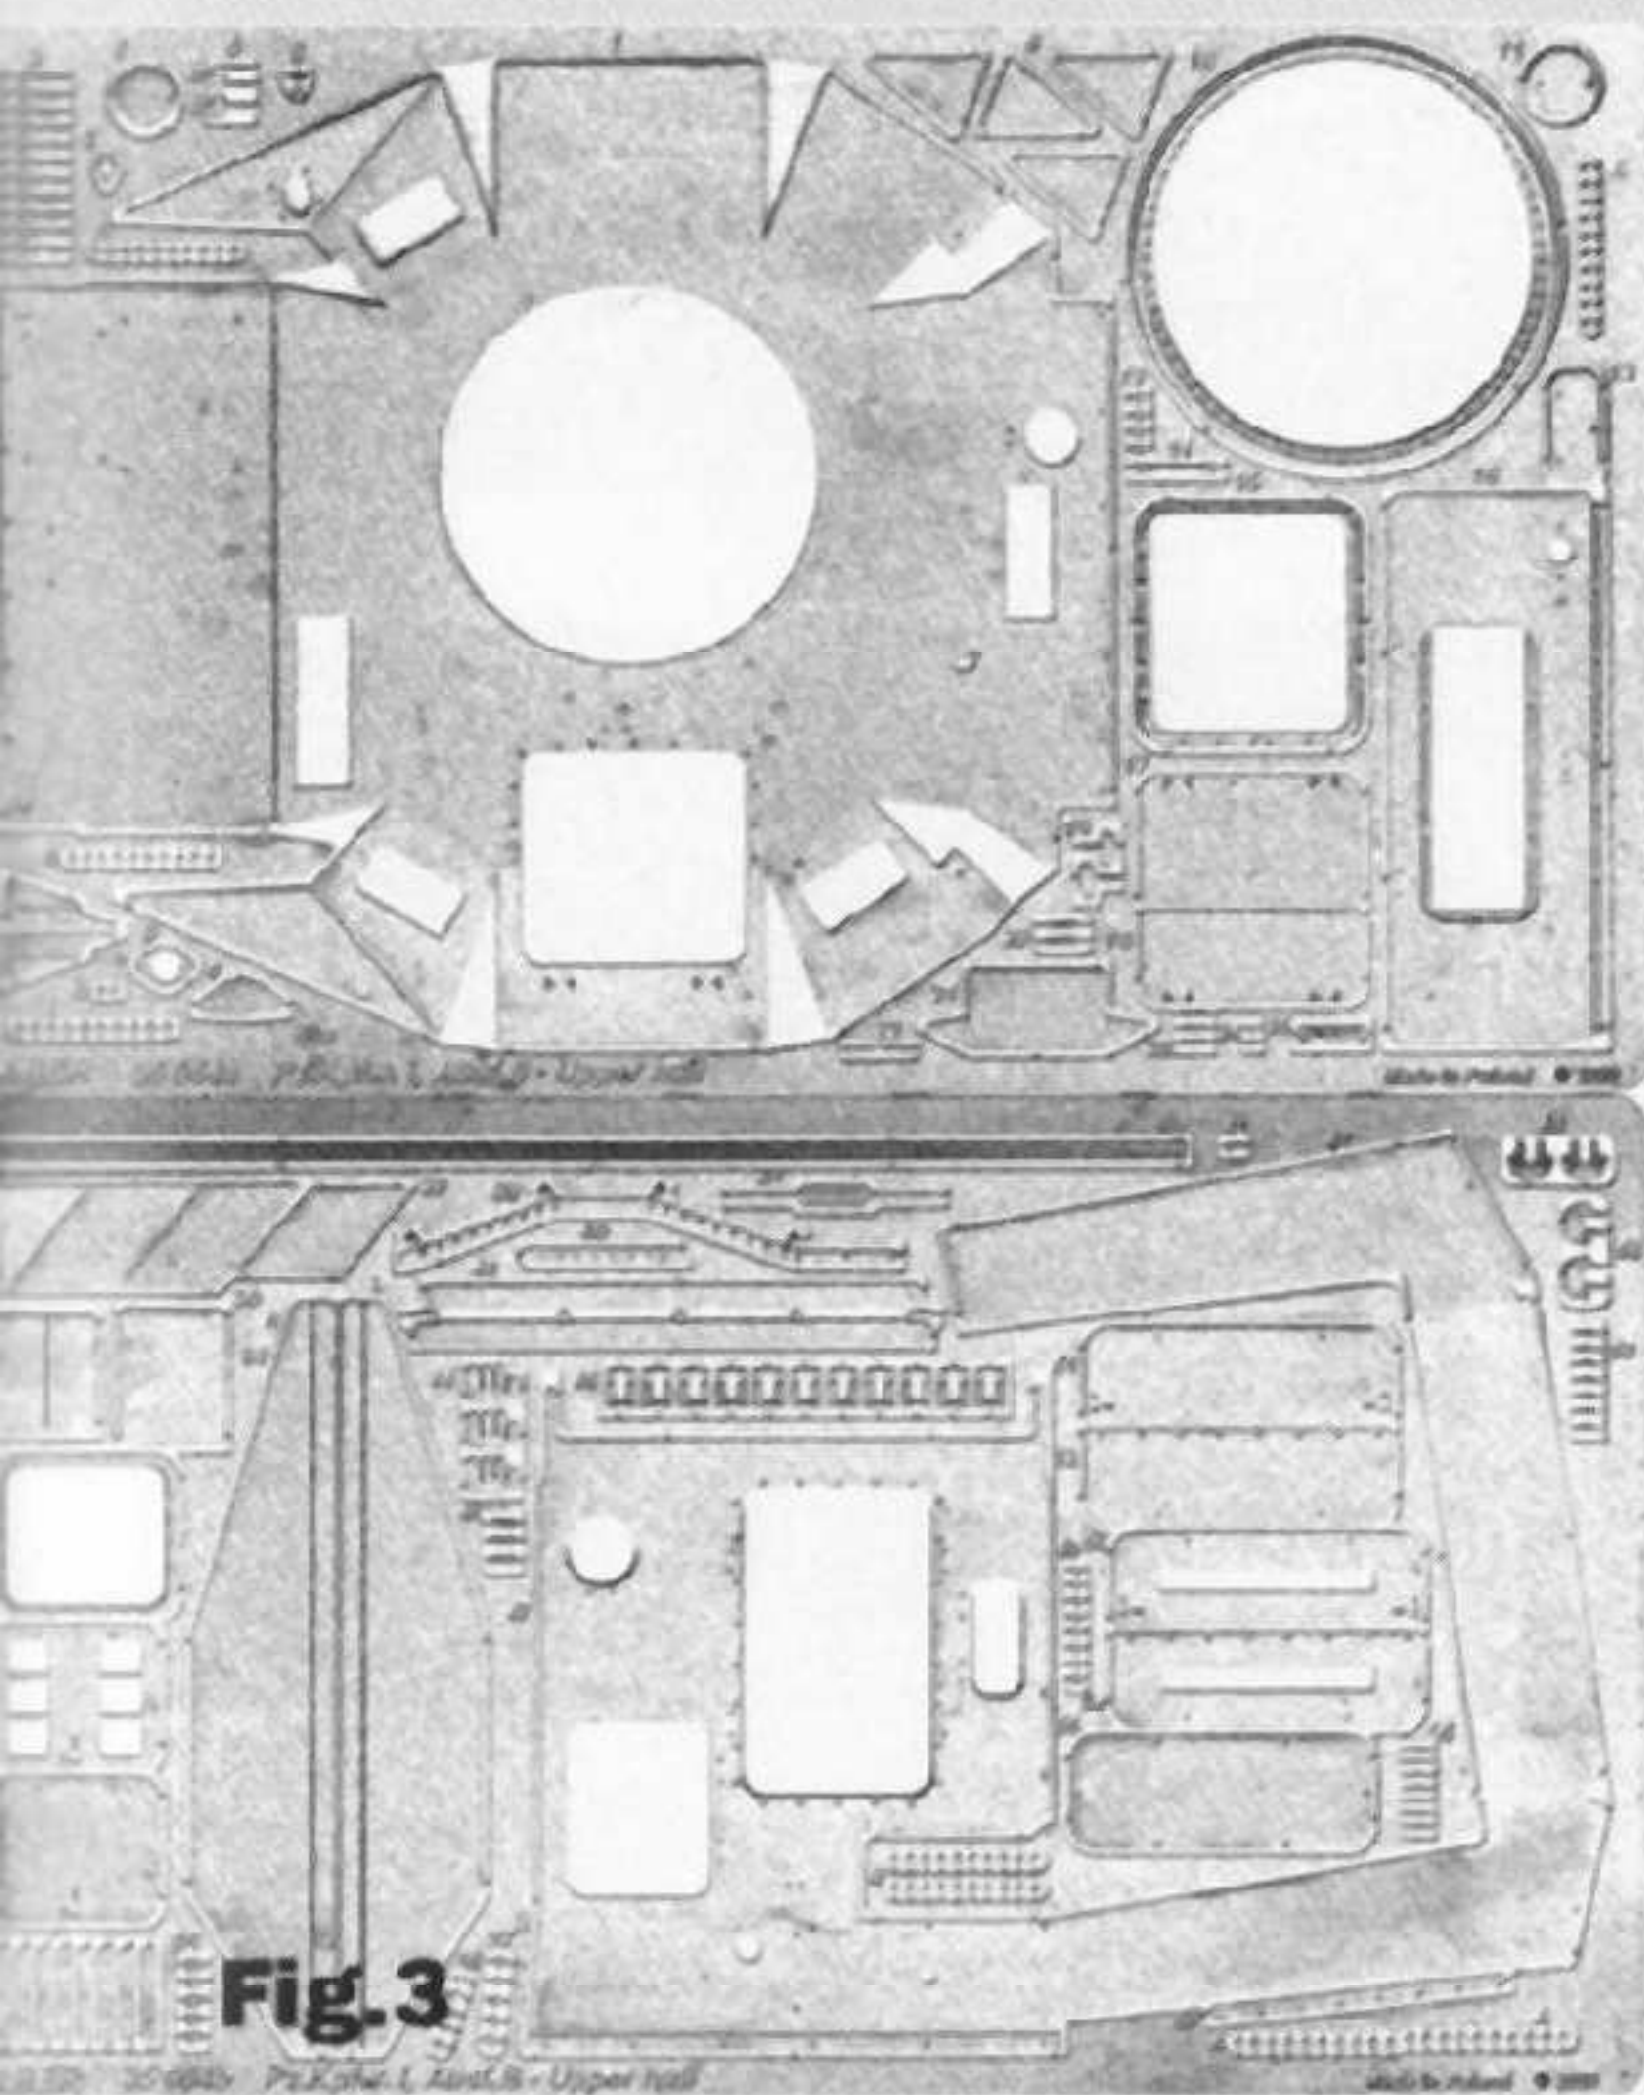
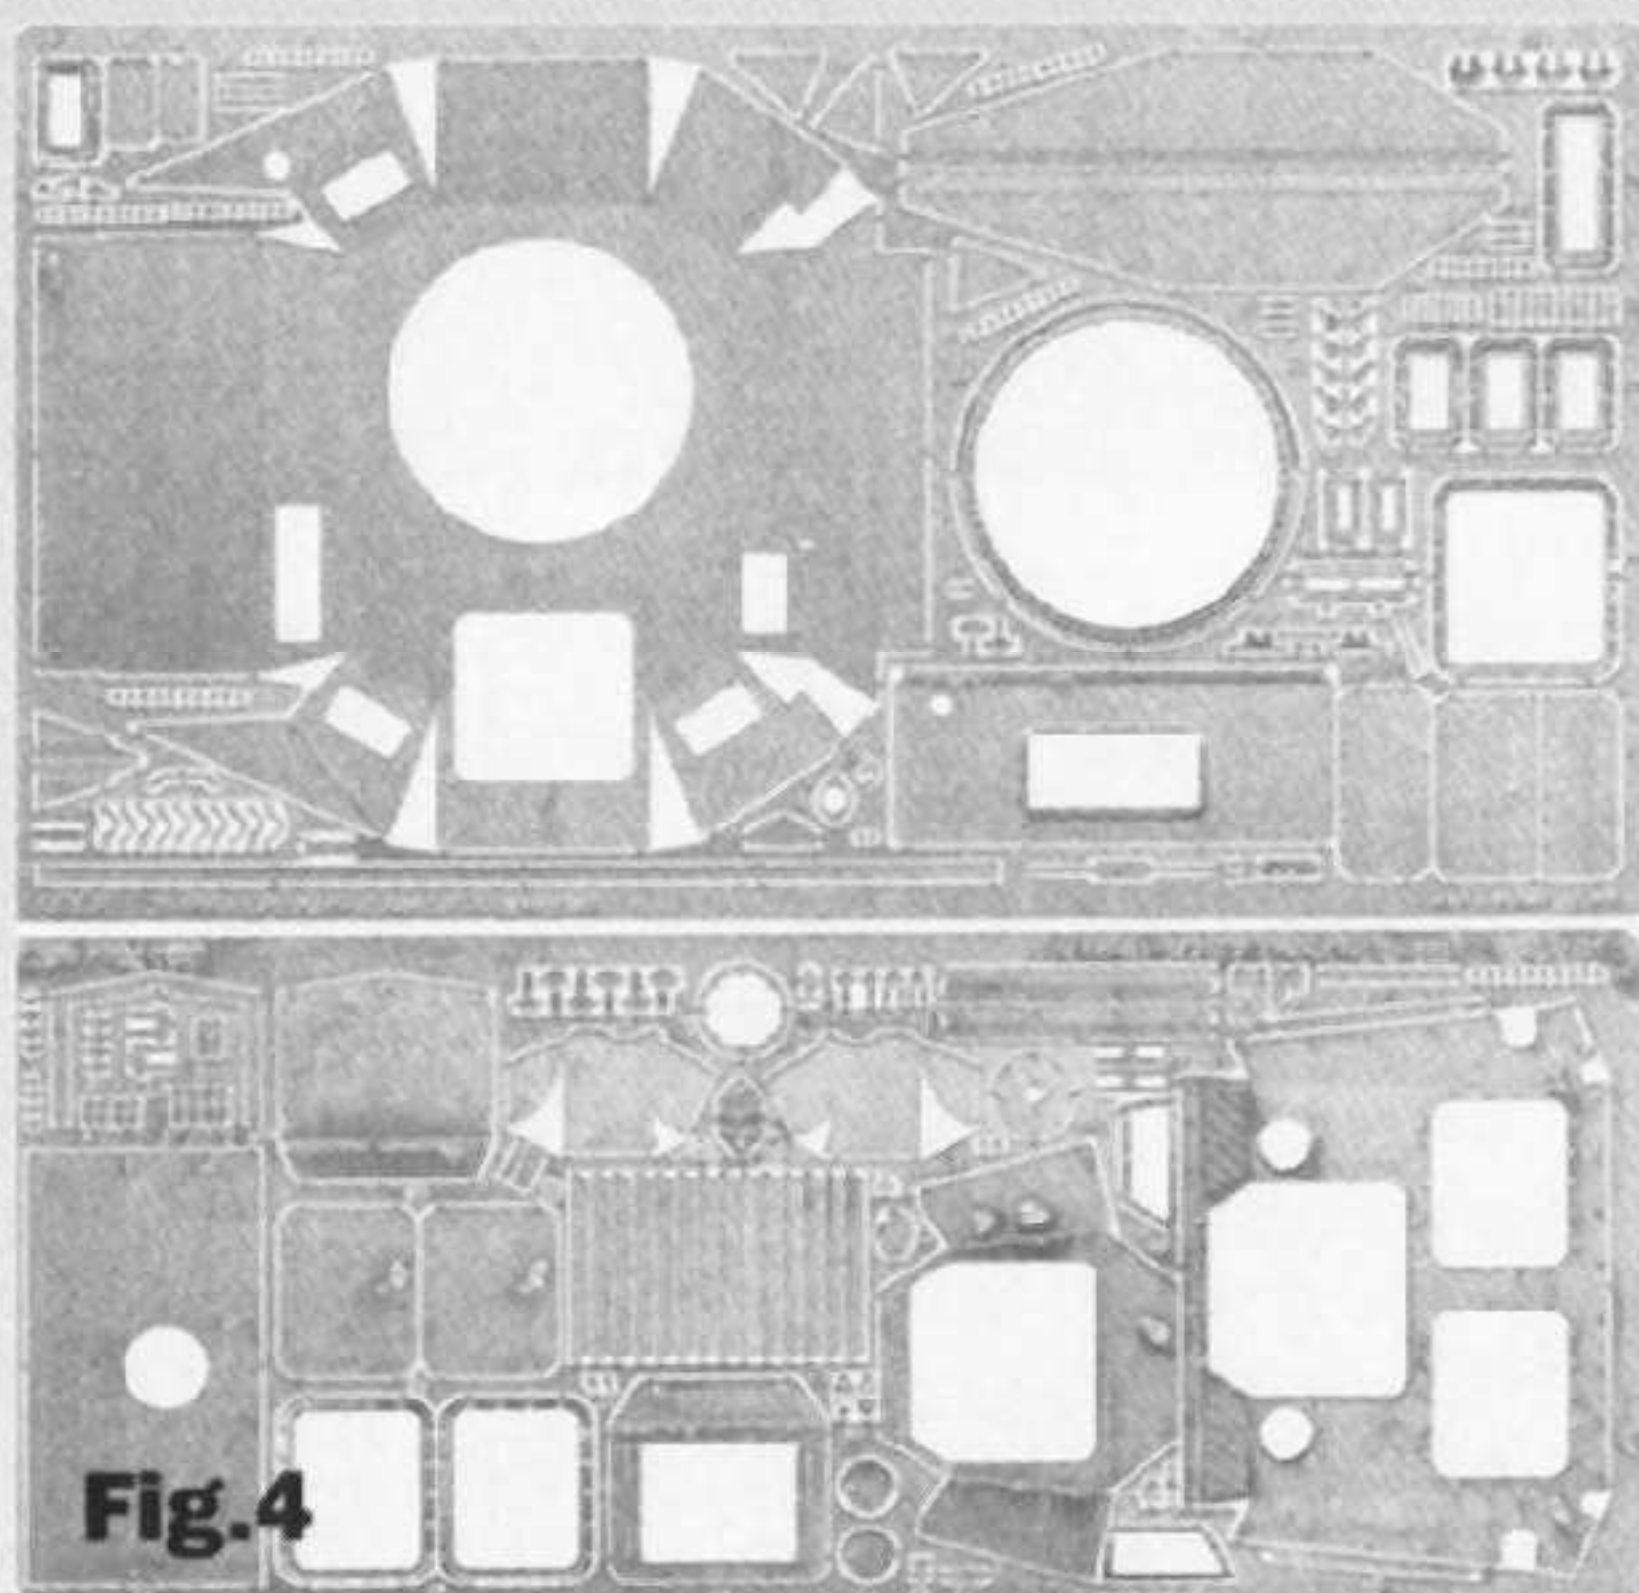
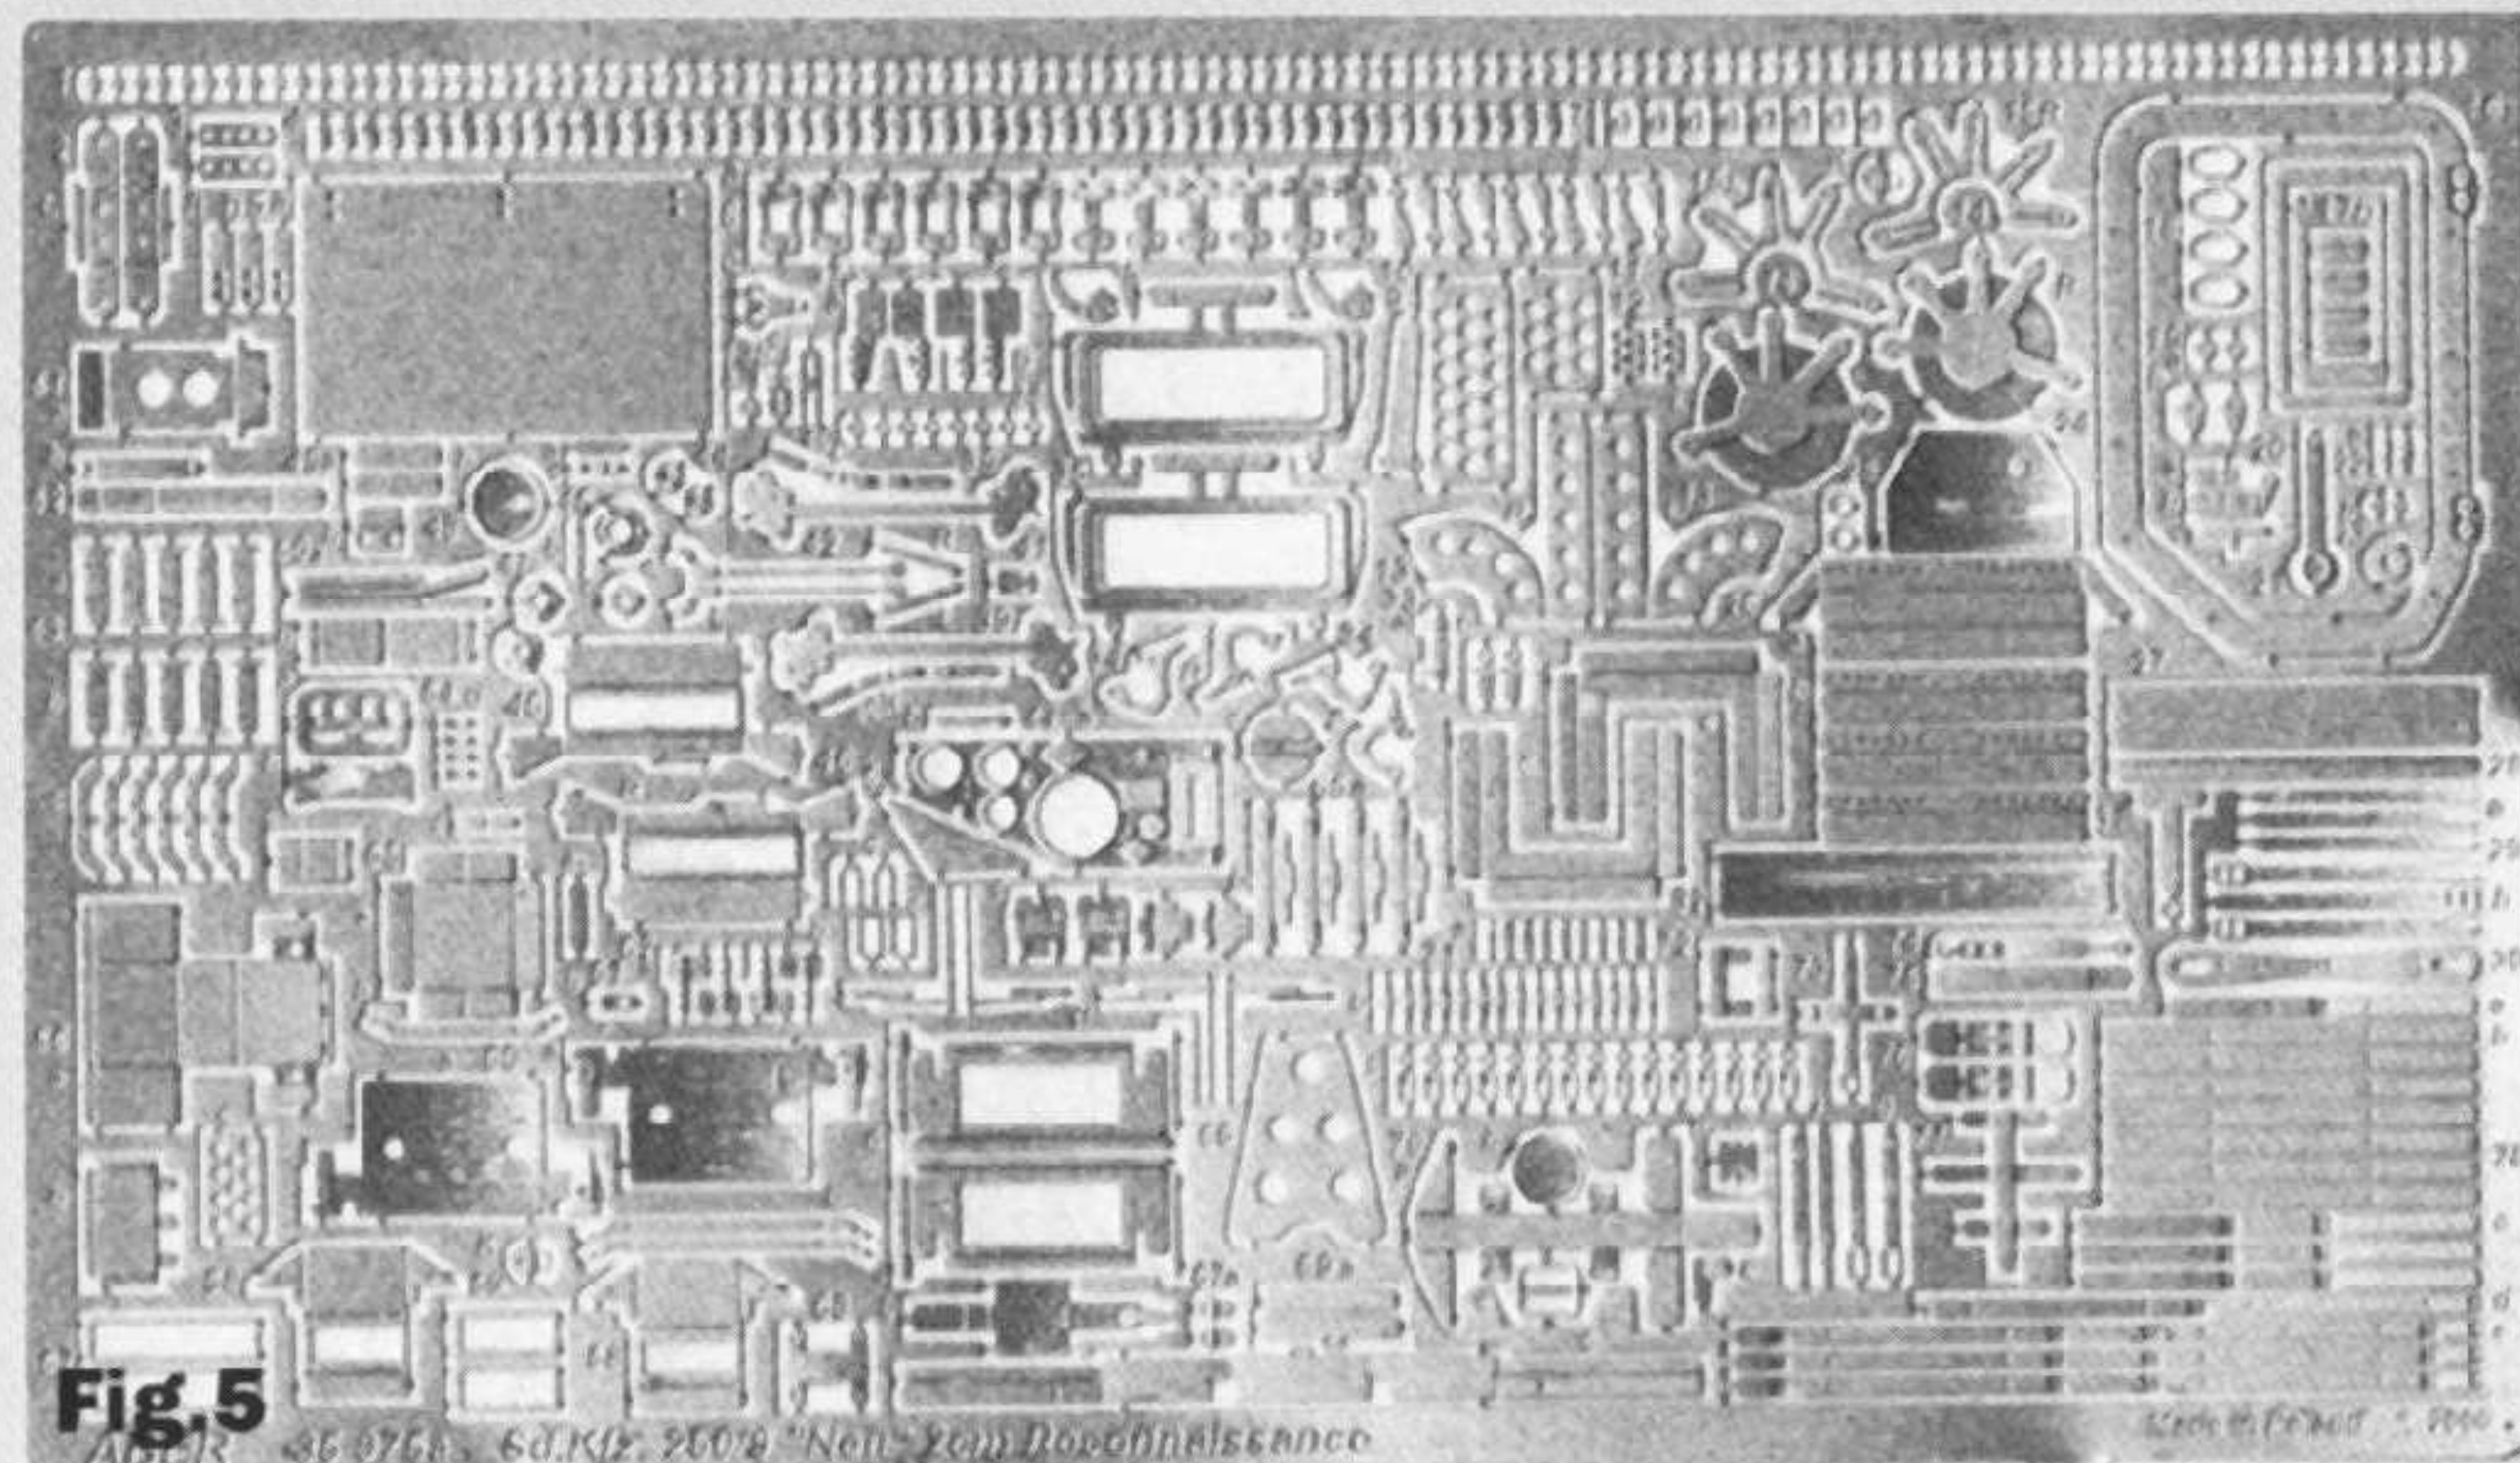
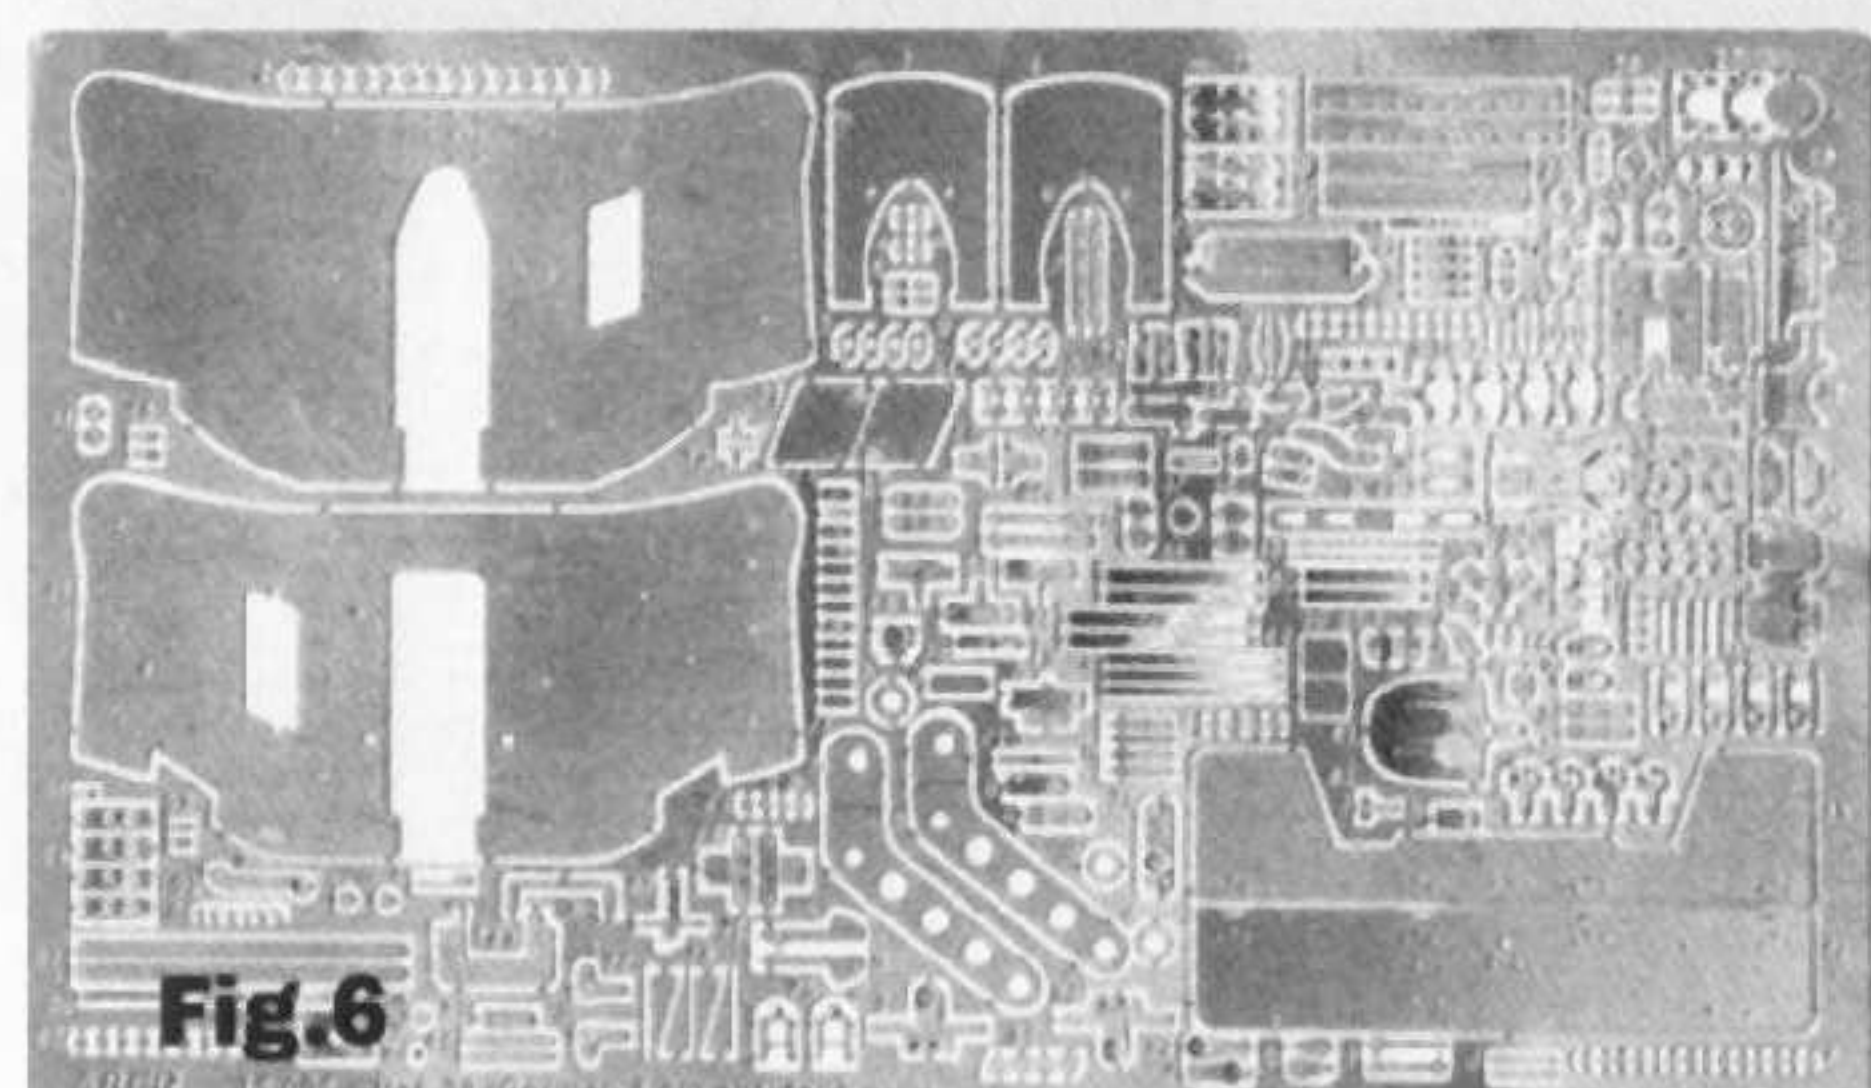

Fig.3
Fig.4
Fig.5
Fig.6
More and more treats are steaming our way from the photo-etch madmen. Sometimes we question their sanity, and ours. The latest detail sets are 35064, **Upper hull for Panzer I Ausf. B (Italeri/Zvezda)**, \$23.99 (fig. 3), which includes two sheets with the complete firing platform; 35066, **Upper Hull for Panzer I, Ausf. A** (Historic or as conversion to Italeri/Zvezda Pz.IB), \$24.99 (fig. 4), also featuring two sheets with the complete firing platform; 35071, **Upper Hull for Panzerjäger I** (additional set for Italeri/Zvezda), \$23.99; 35075, **Sd.Kfz. 250/9 (Neu) 2cm "Recon,"** 2 billion parts for the Dragon kit, price TBA (fig. 5); 35096, **Pak38 5cm Anti-tank Gun** (Dragon), TBA, which includes the double gun shield, 4 billion parts, and resin wheels (fig. 6); 35097, **German Military Bicycles** (for 2 bicycles), \$13.99, including the elusive etched spokes, chains, and much more; 35G07, **T-34 Grill Cover** (Dragon), \$9.99; and 35G08, **T-34 Grill Cover** (Tamiya), \$9.99 (fig. 7). Two new etched accessories are also coming along. 35D03, **Sunflowers** (10), \$12.99, and 35D04, **Small Leaves**, \$12.99.